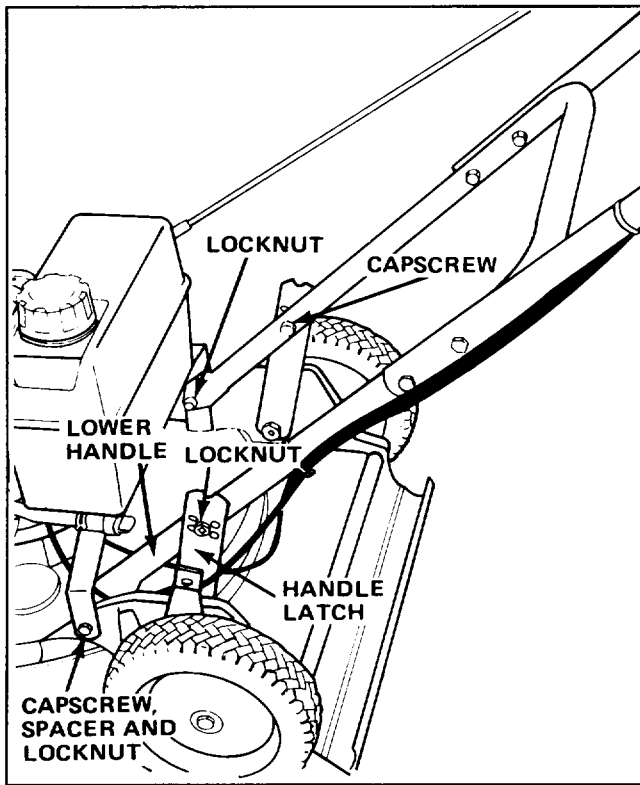

Figure 1
1. LOWER HANDLE (Fig. 1)—Mount lower handle against inside of deck with 5/16 – 18 x 2" lg. capscrews, spacers, and locknuts. Spacer fits between handle and mower housing.